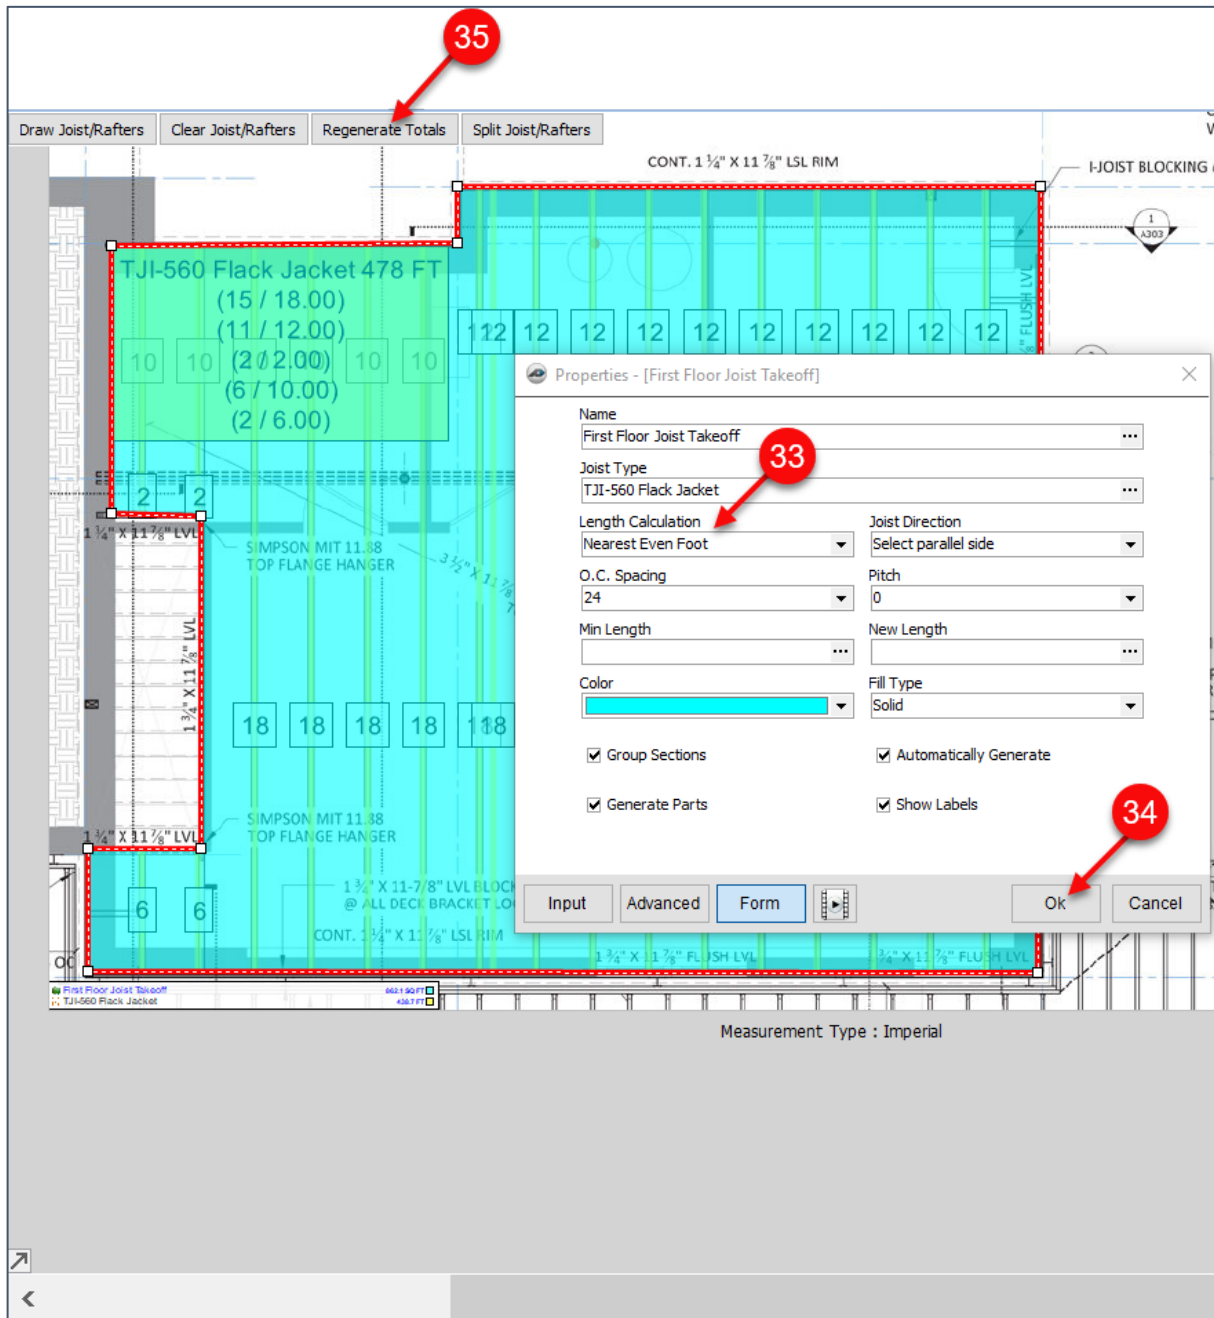

Figure 36-H
- 36. Click on the **Estimating** tab of the PlanSwift **Main** menu (Fig. 36-I).